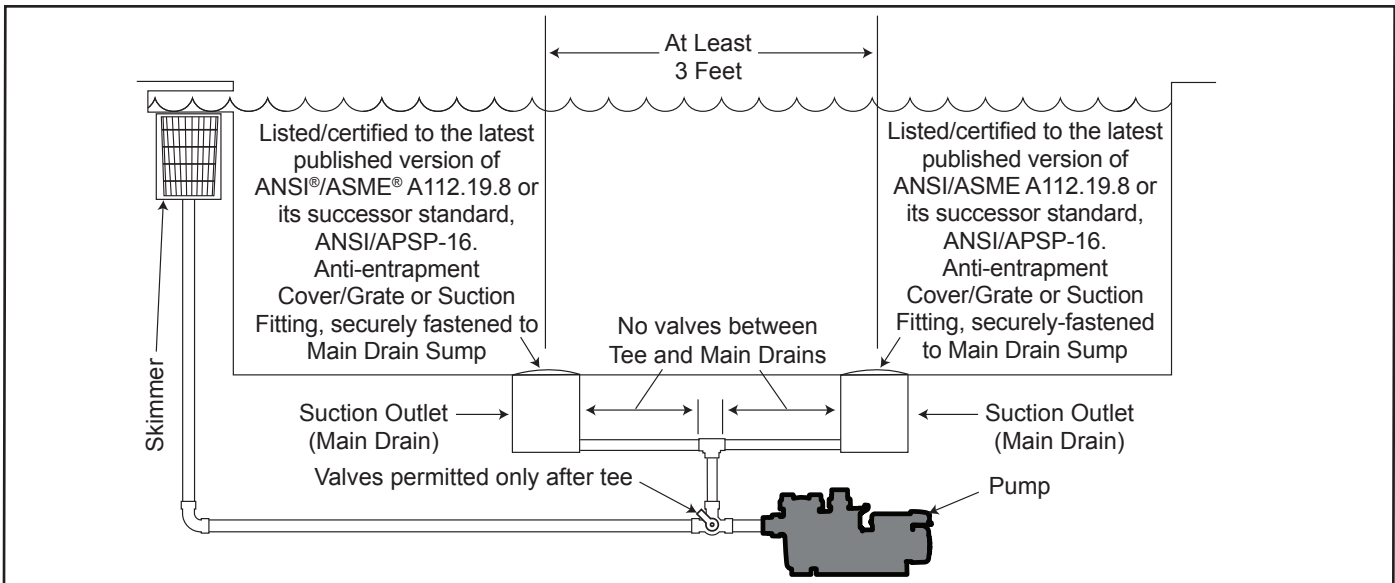

Figure 1. Number of Suction Outlets Per Pump
**Number of Suction Outlets Per Pump** - Provide at least two (2) hydraulically-balanced suction outlets, with covers, as suction outlets for each circulating pump suction line. The centers of the suction outlets (suction outlets) on any one (1) suction line must be at least three (3) feet apart, center to center. See Figure 1.
The system **must** be built to include at least two (2) suction outlets (drains) connected to the pump whenever the pump is running. However, if two (2) suction outlets run into a single suction line, the single suction line may be equipped with a valve that will shut off both suction outlets from the pump. The system shall be constructed such that it shall not allow for separate or independent shutoff or isolation of each drain. See Figure 1.